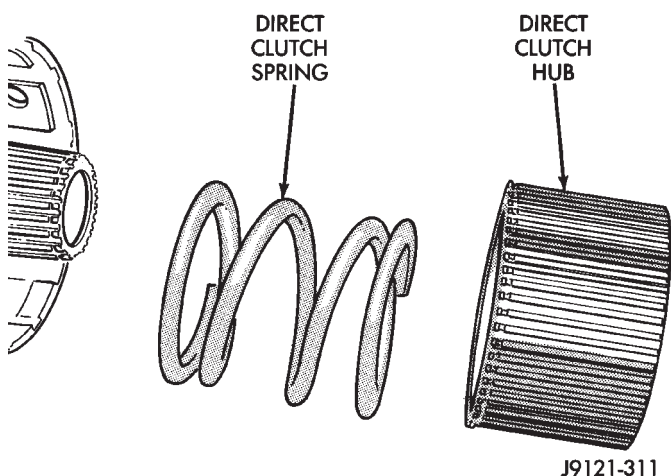

Fig. 25 Direct Clutch Hub And Spring Removal
(15) Remove direct clutch hub and spring (Fig. 25).